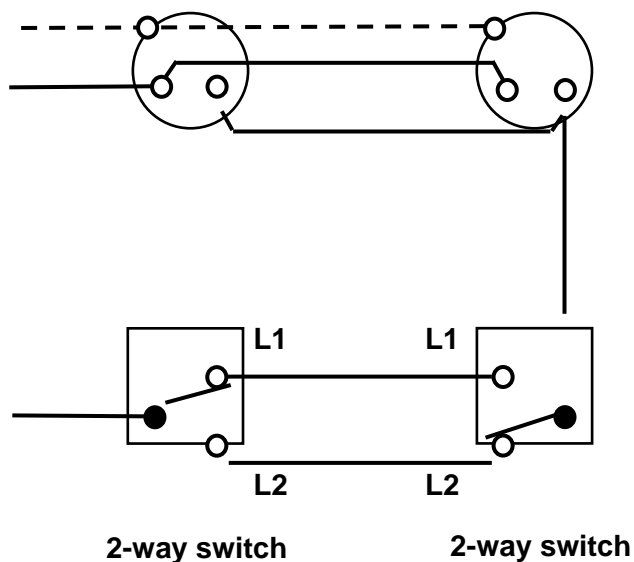

Fig 2-5 Two-Way Switch Circuit
For independent control from two positions, for example on a staircase, two-way switches are required as shown in Fig 2-5. These switches have 3 terminals, one of which is called the common (C); the other two are called the strappers and are usually marked L1 and L2 respectively.